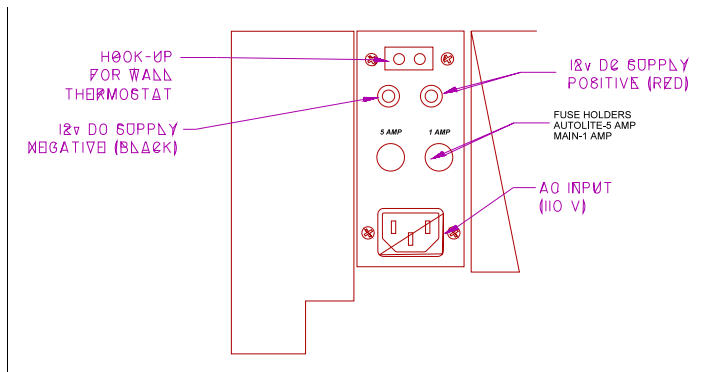

Figure 7 Connection Panel Lower Right Side
The following is a step by step procedure for installing the optional wall thermostat. Note connection terminals on left side of unit at rear (Figure 7). Use 18/2 thermostat wire for the installation.
- b. Remove factory jump wire and hook up thermostat wires to terminals (Figure 7).
The following is a step by step procedure for installing the optional remote thermostat. Note connection terminals on rear of unit (Figure 7).
- b. Remove factory jump wire and hook up thermostat wires to terminals (**Figure 7**).